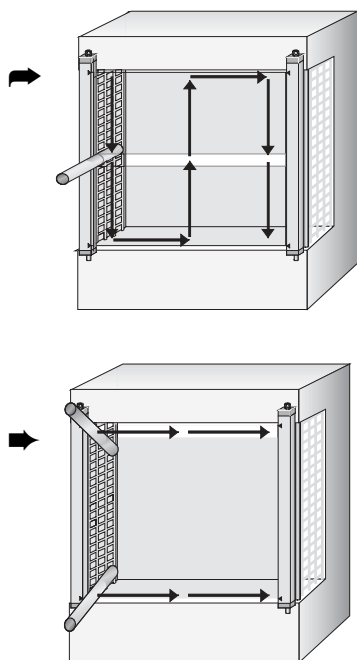

Figure 36: Daily checks of the protective device
- Move the test rod slowly through the protective field to be tested, as shown in ➡ in Figure 36.
- Then move the test rod along the edges of the protective field, as shown in ➡ in Figure 36. This procedure allows you to test if the point-of-operation/reaching behind protection is functioning properly (see “Steps for Mounting the Device” on page 24).